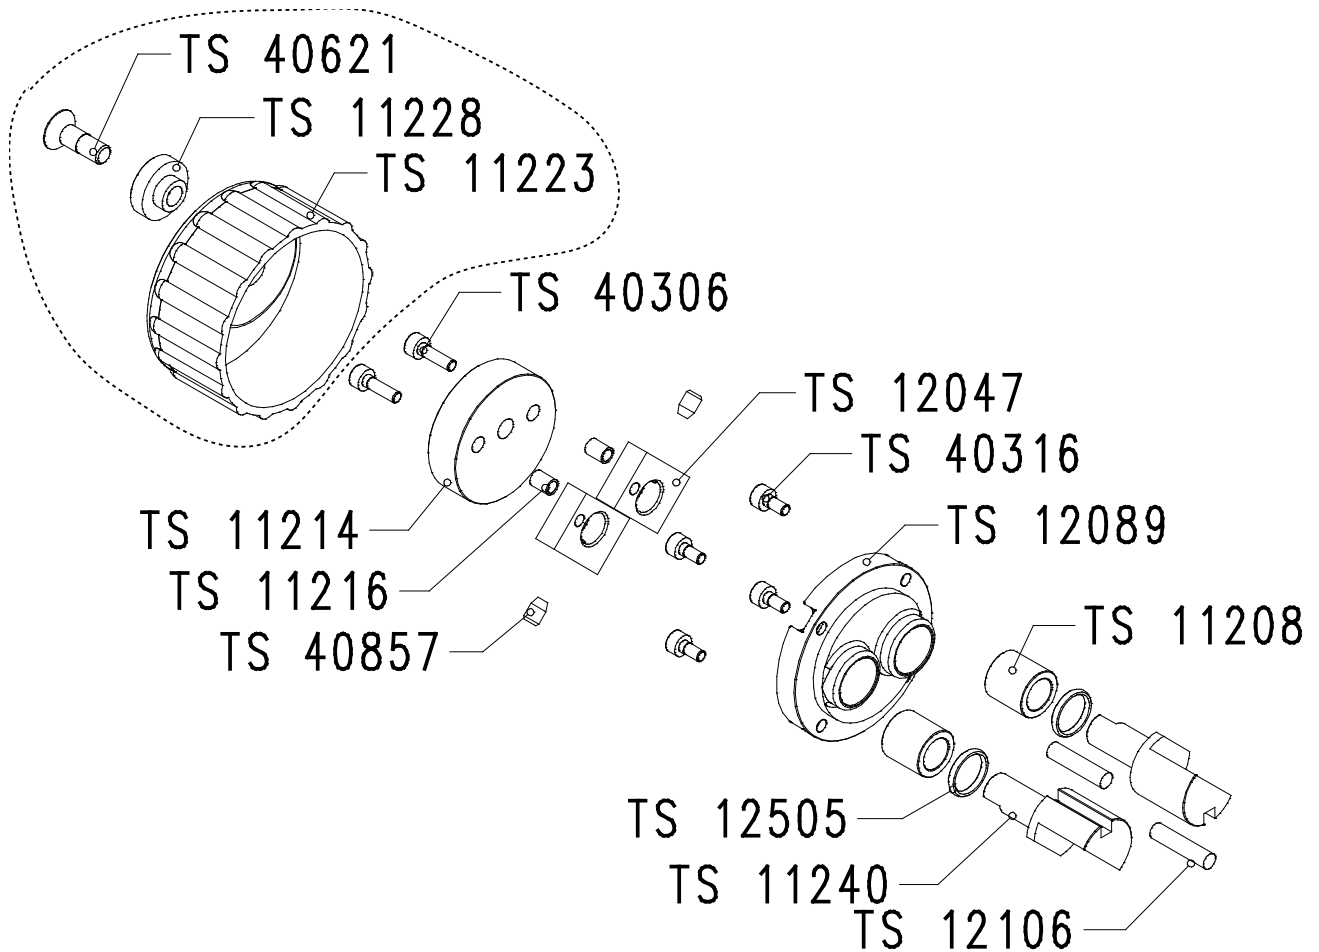

Figure 13-7: tape cleaner assembly TS 10206, details
- Figure 13-7: tape cleaner assembly TS 10206, details